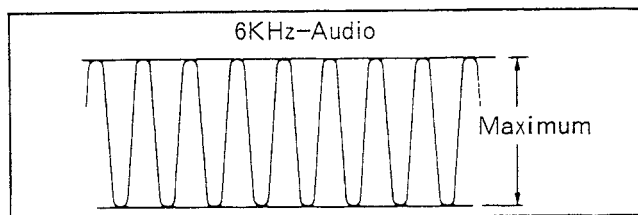

Fig. M15
3. Adjust the screw (B) so that the audio output level at TP4001 becomes maximum. (Fig. M15)